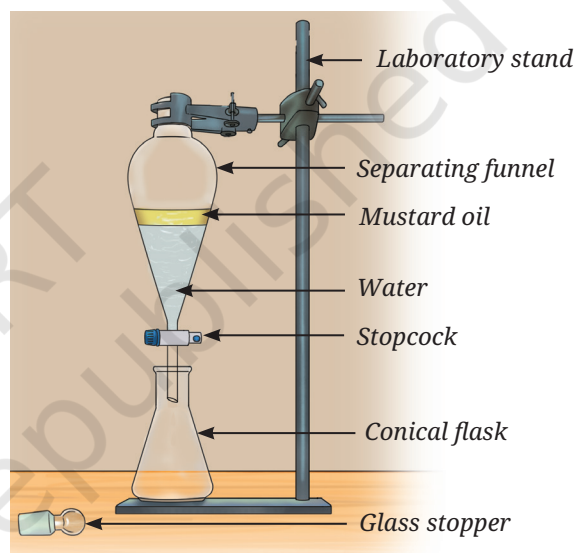

Fig. 5.16: Separation of immiscible liquids
3. You will see the formation of two separate layers of mustard oil and water (Fig. 5.16). The yellow-coloured mustard oil forms the upper layer and water forms the lower layer. Can you explain why?